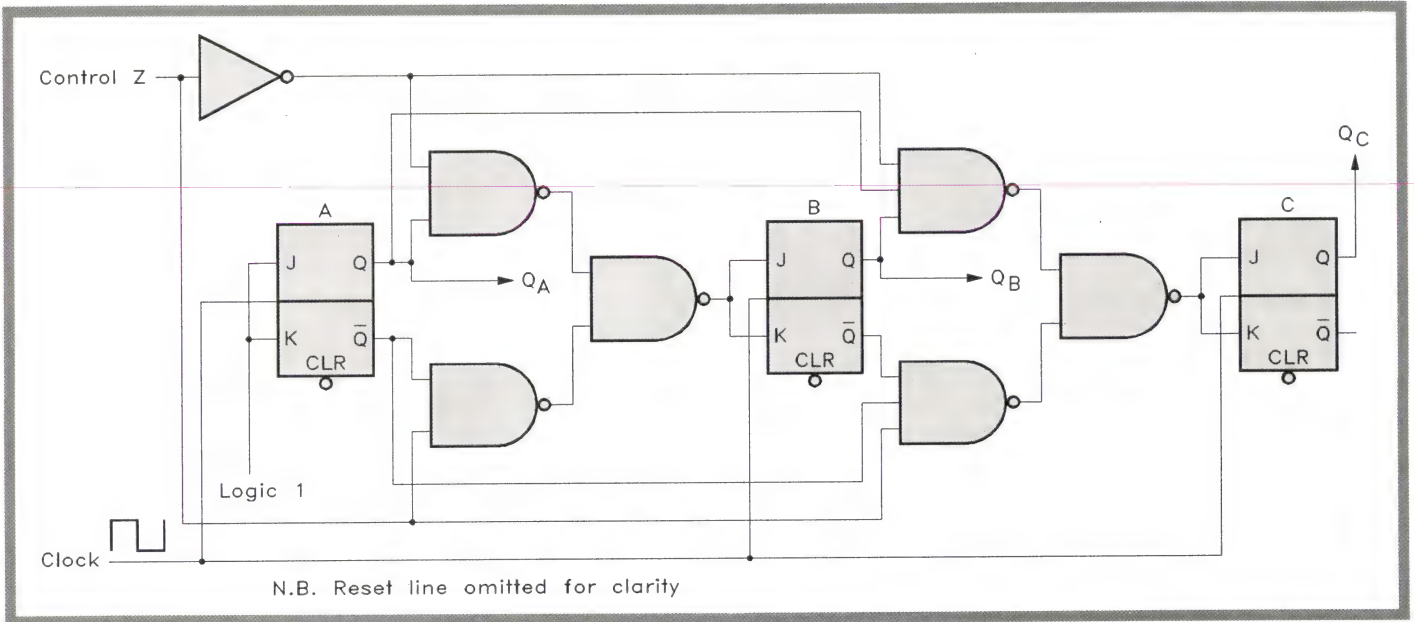

Figure 12. The complete circuit for the 'divide-by-eight up/down counter'.
The other expressions are rather more complex, especially those for the MSB flip-flop (C). However, they are consistent in being OR type expressions, which leads very naturally to implementation with NAND logic alone. The full circuit for this counter is shown in Figure 12. The driving logic can be fully implemented using just two NAND gate packages, one of which (a 7400 quad 2-input NAND package) is fully utilised, including using one gate as an inverter. The other package is a triple 3-input NAND package, also fully used, one gate being wired as a 2-input gate. The total chip count is just *four*, including the flip-flop chips.
Figure 12 shows a practical battery-powered 'bridge energiser' that can give either a 9V DC output, or an excellent 1kHz sinewave output with a peak-to-peak amplitude of 5V. The oscillator is diode-stabilized Wien type, which is effectively operated from a split supply, derived from the battery via R1 and R2; it has a low-impedance output, and consumes a quiescent current of less than 4mA. To set up the oscillator, connect its output to an oscilloscope and trim RV1 to give a reasonably pure sinewave output of about 5V peak-to-peak.